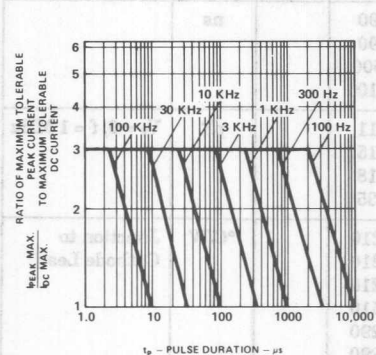

Figure 2. Maximum Tolerable Peak Current vs. Pulse Duration. ( $I_{DC}$  MAX as per MAX Ratings.)
- See Figure 2 to establish pulsed operating conditions.